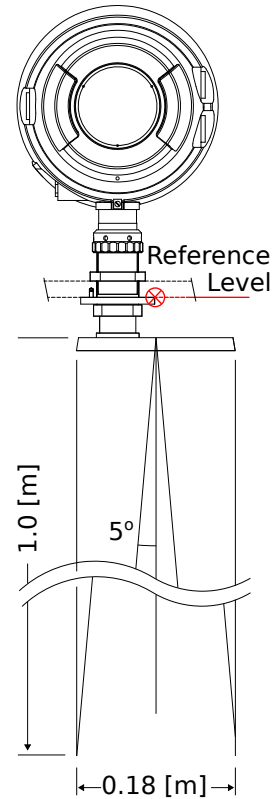

Figure 1.1: Position reference and the 5° [deg] half top angle of the F08 antenna beam.
- It is advised to choose a mounting position such that the WaveGuide radar beam is free of large reflecting obstacles (the beam of the F08 antenna can be approximated to a conical shape having a 5° [deg] half top angle as shown in Fig. 1.1). The minimum horizontal distance between a radar and any obstacle in the beam's path should be at least 10% of the vertical distance between the radar and the obstacle. This does not only include horizontal objects in the beam's path but also vertical structures.